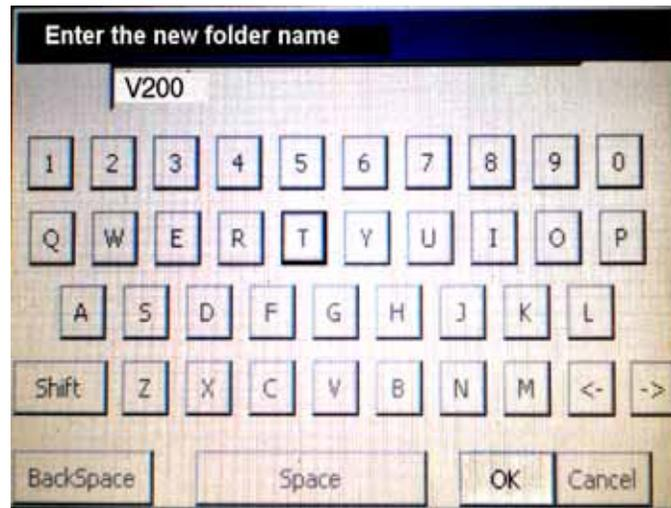

Figure 8-11: New Configuration Screen
6. Enter either **Esprit** or **V200**, and then touch **OK** (refer to Figure 8-11).